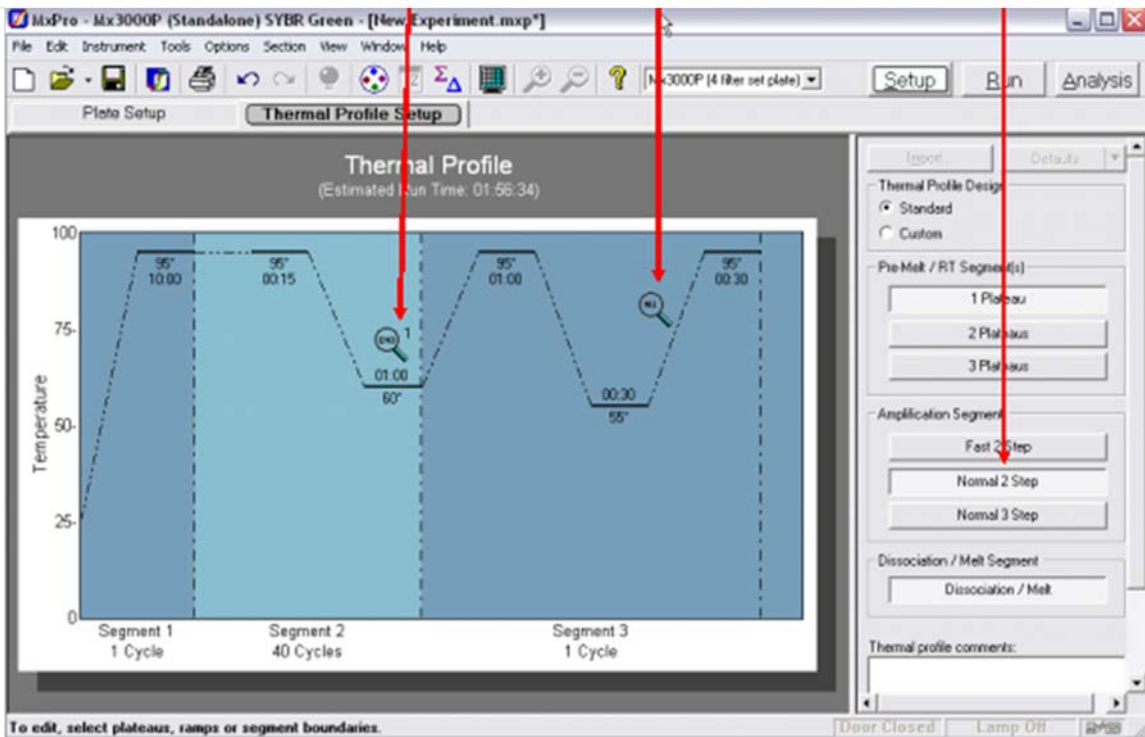

Figure 2. "Thermal Profile Setup" screen.
6. Click "Next" to go to the "Thermal Profile Setup" tab (see Figure 2). In the "Application Segment" panel to the right, click "Normal 2 Step." To change the default setting for the thermal profile, click directly on the number that needs to be changed. Adjust the parameters to reflect the following: